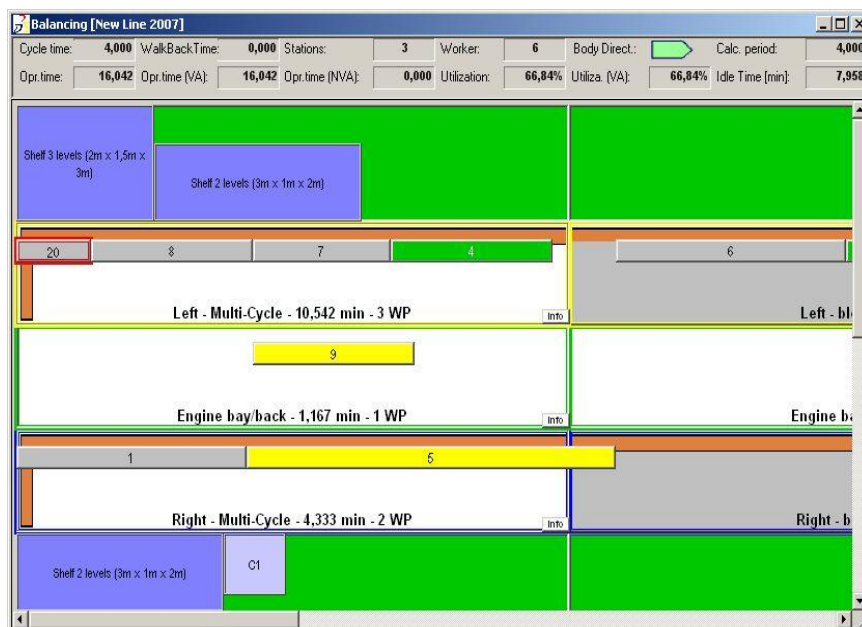

Figure 67: Example – Balancing
- **Balancing View:** Processes that have been assigned to the Balancinglist, are immediately created with stations and workplaces and are then shown in the Balancing view. *Please refer to the Figure 67.*